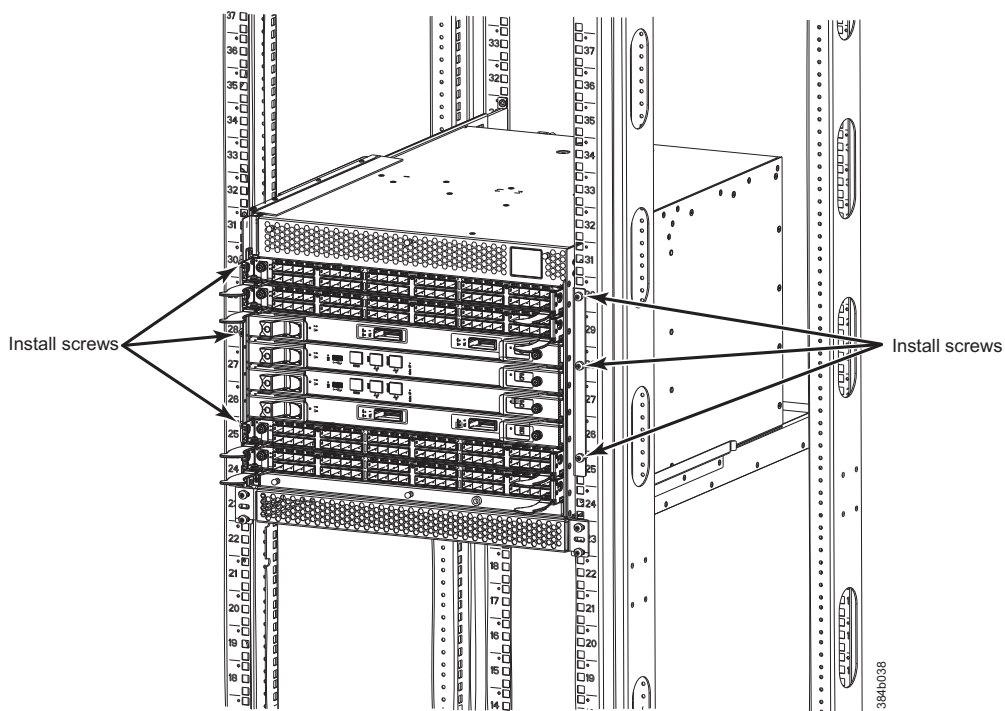

Figure 14. Location of screws to attach the chassis to the cabinet rails
13. The chassis will be secured to the cabinet with six 10-32 screws with washers (see Figure 14 on page 28). Four of these screws will also be used to attach the cable management finger assemblies. Do not install the screws until you determine the position of the cable management fingers.